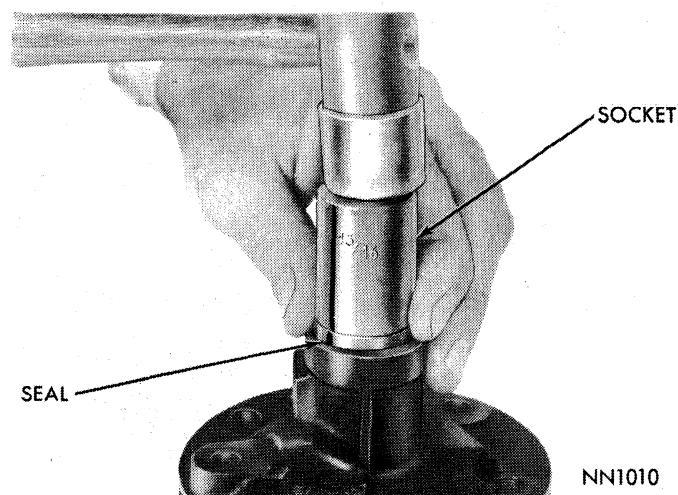

Fig. 9—Oil Seal Installation
(1) Place pump body on flat surface and drive new drive shaft seal into bore with a 7/8 or 15/16 inch socket till seal bottoms on shoulder (Fig. 9).